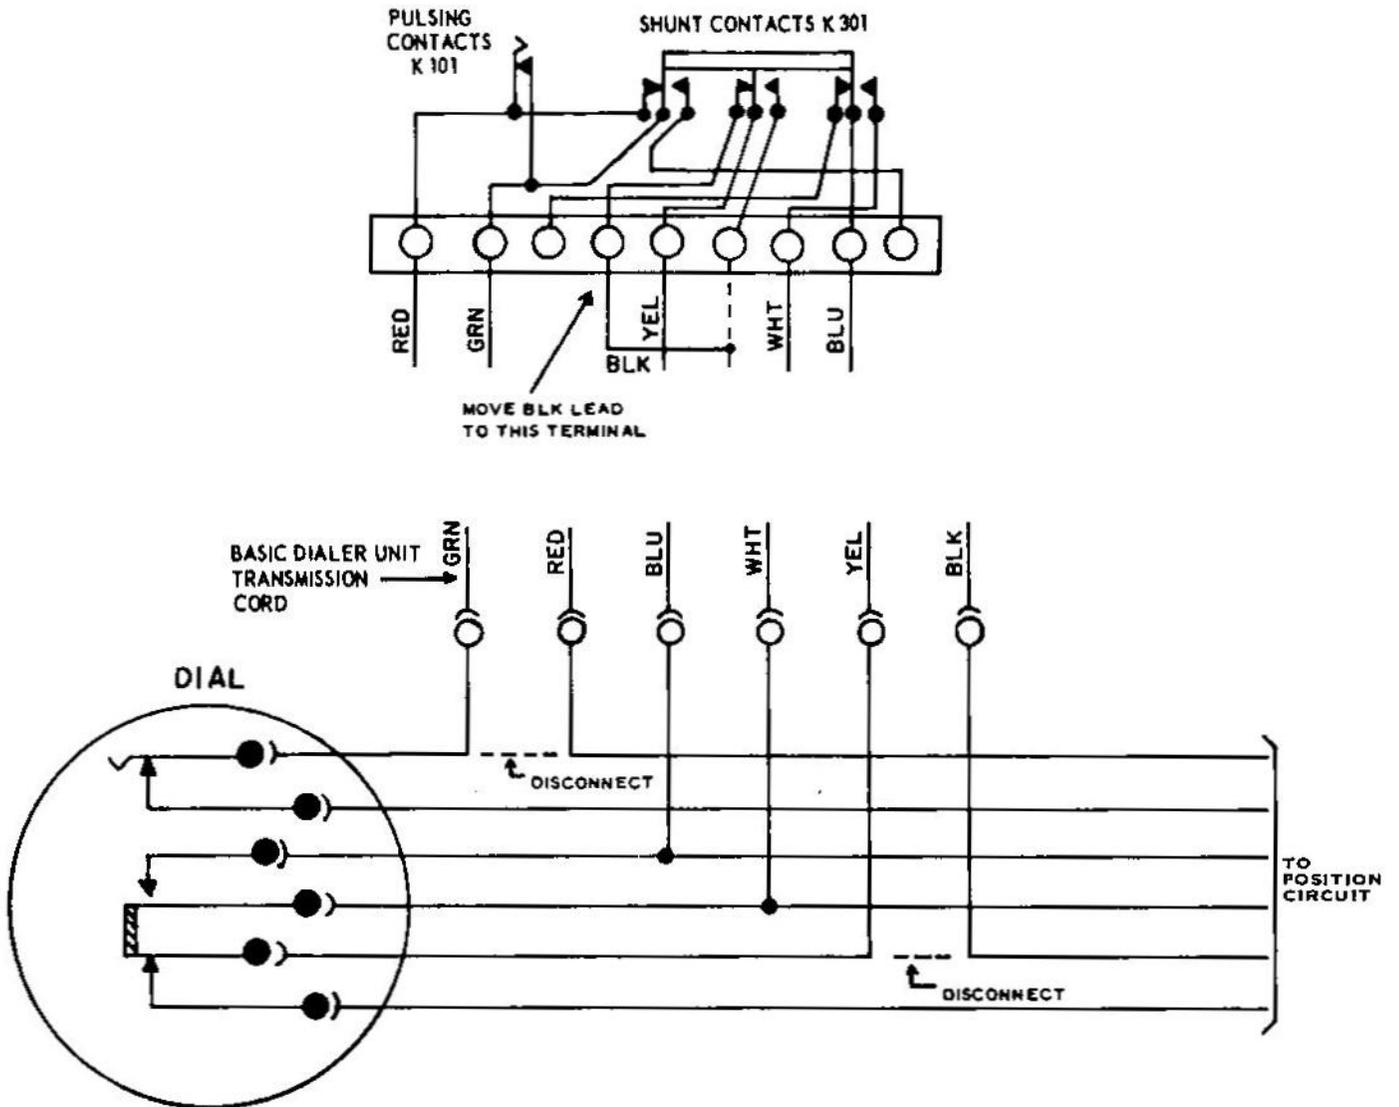

Figure 9. Dial with Spring Combination NP-16-A7.
7.01 Refer to Figures 9 through 13 for pin designations, voltages, etc, when necessary.